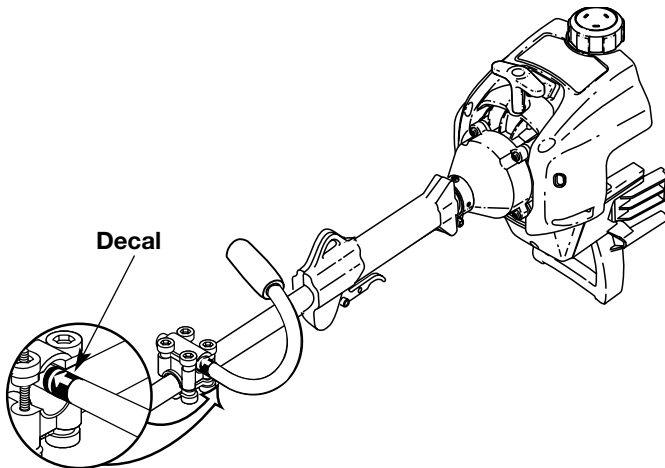

Fig. 2
5. Slide the J-handle in or out until the arrow/white line on the decal touches the clamp assembly (Fig. 2).